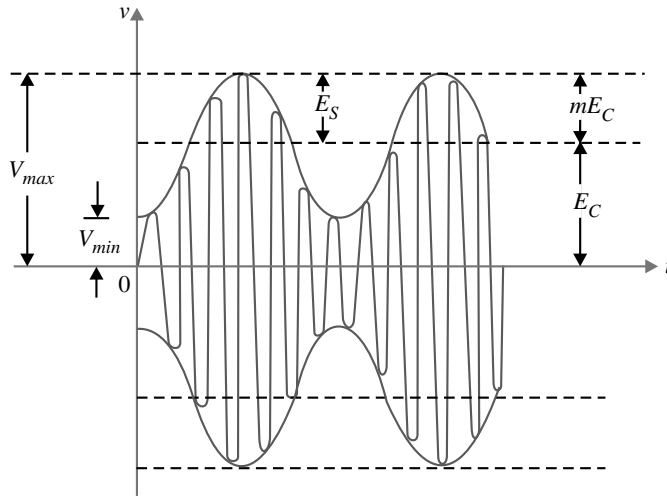

Fig. 14.7
**Solution.** Fig. 14.7 shows the waveform of amplitude modulated wave. Let the amplitude of the normal carrier wave be  $E_C$ . Then, it is clear from Fig. 14.7 that :
If  $E_S$  is the signal amplitude, then it is clear from Fig. 14.7 that :